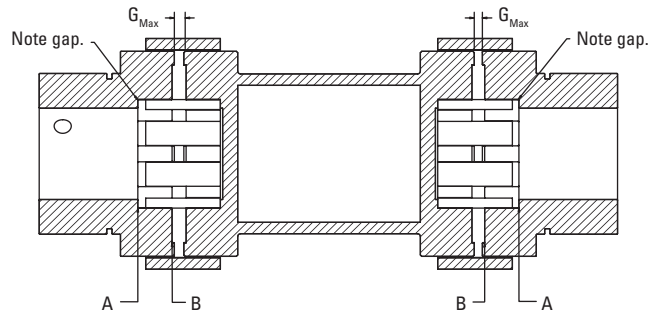

Fig. 2. Proper shaft-to-hub engagement.
4. Install the hubs. They should be mounted so the end of the shaft is flush with surface "A" as shown in fig. 2.
5. Install the spacer body and inserts. Slide all three components (spacer body and two inserts) tight to one side and check the gap from the insert face to hub flange face shown as surface "A" in fig. 2. This should not exceed $[(2 \times G_{Max}) - (2 \times G_{Min})]$ using the appropriate minimum hub gap (G_{Min}) and the maximum hub gap (G_{Max}) from table 2. If this gap exceeds your calculation, adjust one or both hubs to set within specs, paying attention not to have the shaft end extend past surface "B" as shown in fig. 2.